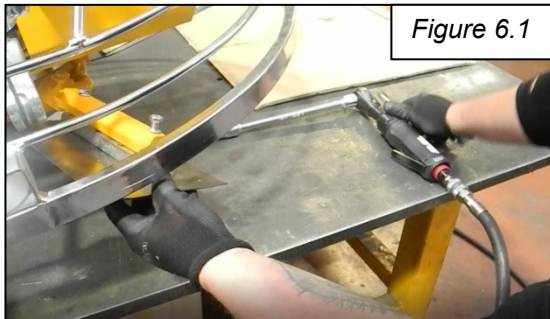

Figure 6.1
- Remove the fixing bolts (hexagon head screws 6x35) of the blades on each trowel arm (2 for each arm) (fig 6.1) by means of a suitable tool (screwdriver or hexagonal-head wrench, size 13).
- On the ground unhook the blades from the clasps (there are 2 or 4 clasps on the feather edge disc depending on the number of blades), slightly lifting the machine (approximately 10 cm) through the four hooks supplied (fig 6.1).